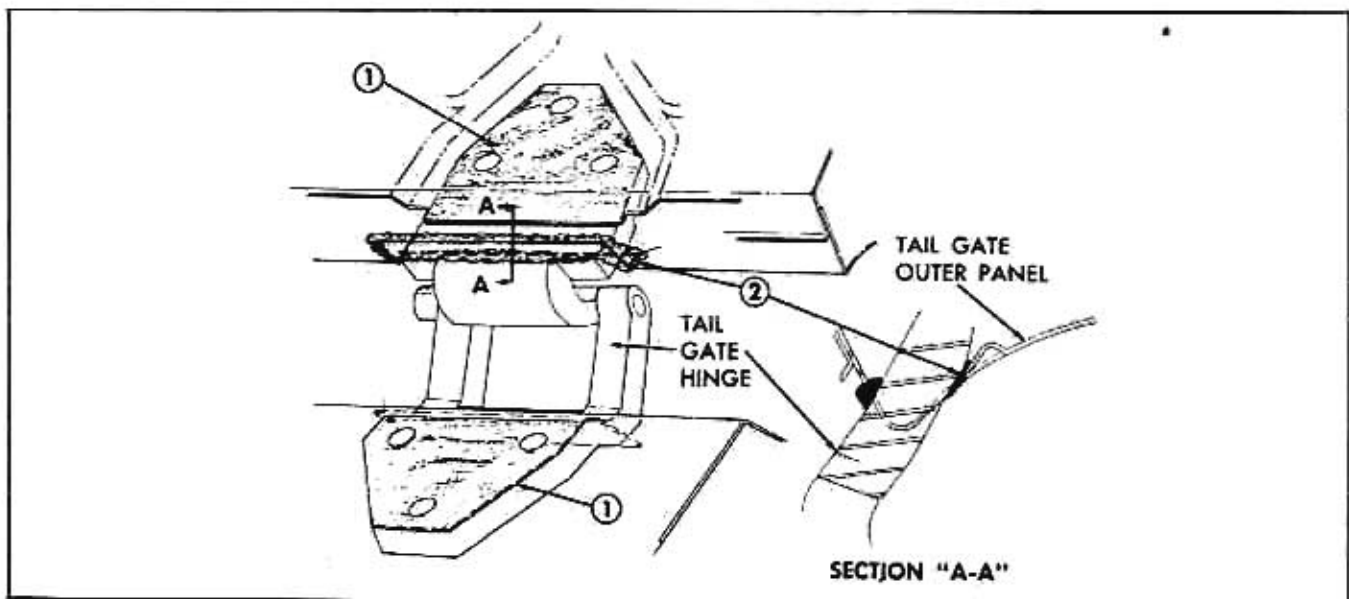

Fig. 4-13 Tail Gate Hinge Assembly
1. Clean off old sealer from tail gate hinge straps (tail gate side) and apply a coat of heavy-bodied sealer to attaching surface of hinge straps, as indicated at 1 in Fig. 4-13.
4. Apply body caulking compound between hinge strap and hinge strap opening in tail gate panels, as indicated at 2 in Section A-A, Fig. 4-13, to effect a watertight seal at opening.
5. To install tail gate hinge assembly, reverse removal procedure. Prior to installing hinge, clean old sealer from hinge attaching surfaces and coat attaching surface of hinge with heavy-bodied sealer, as indicated at 1 in Fig. 4-13. Install tail gate assembly as described under **TAIL GATE ASSEMBLY - INSTALLATION**.